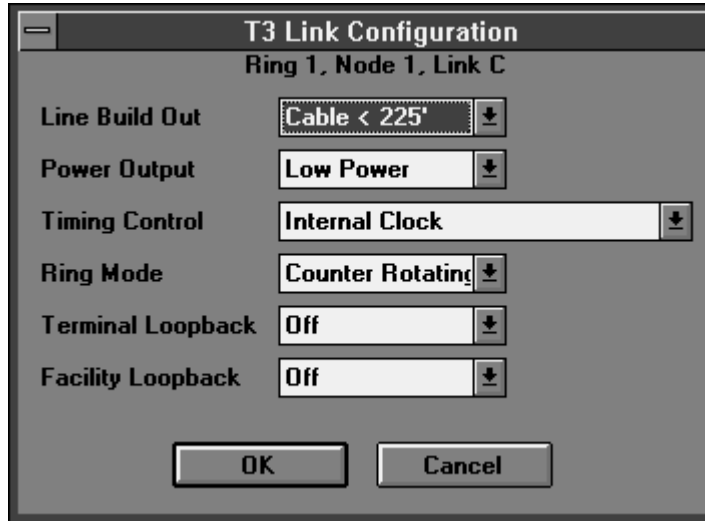

Figure 3-32. T3 Link Configuration
2. Select **Configure** from the Tools menu or click on the Configure icon. The T3 Link Configuration screen is displayed (refer to Figure 3-32). The Line Build Out field is highlighted.